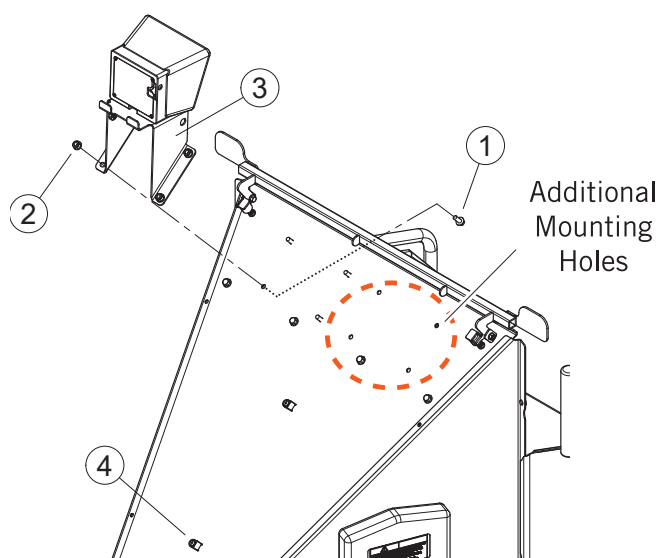

Figure 2.5, Digital Display Controller Enclosure
1. Remove the bolts (1) and nuts (2) attaching the digital display controller mount assembly (3) to the inside of the chute.
3. Route harness using the zip ties and two holders (4) shown in Figure 2.5. Leave excess harness at the controller to allow rotation of the enclosure from side to side